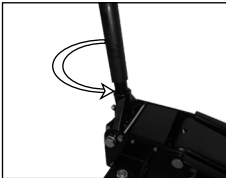
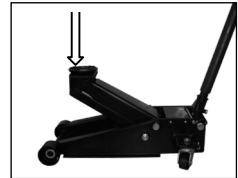

fig 5.
fig 8.
1. Use the handle assembly to twist the release valve 1-1/2 turns counter-clockwise [fig.5].
1. **Check oil level** - Open release valve with the handle assembly [fig.5] not more than two twists and press down on head cap [1] [fig.8] to ensure lifting arm [7] is fully down.
1. Close release valve by twisting the handle assembly clockwise until firm resistance is felt [fig.5].
6. SLOWLY twist jack handle assembly counter-clockwise [fig 5.] to ease vehicle down onto jack stands.
2. Slowly twist the handle assembly counter-clockwise (fig.5) until the jack just begins to lower.
4. After removing the jack from under the vehicle, push down on the lifting arm (7) (fig.8) to reduce the pump ram exposure to rust and contamination.